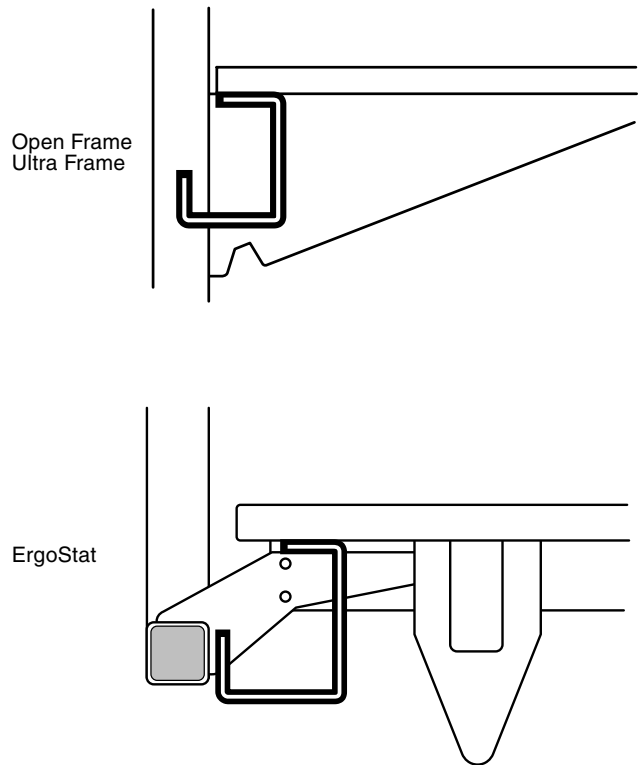

Figure 1
1. On underside back edge of surface install four (4) #10-12 x 3/4" phillips screws provided into the predrilled holes in the surface leaving a 3/16" gap between the screw and surface.
2. Align large hole in Cable Tray with the screws in the surface, sliding cable tray forward or backward depending on location desired. (Figure 1)